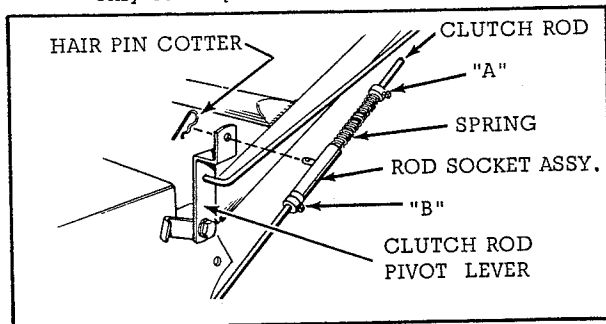

Fig. 10
- Attach the upper end of the clutch rod to the clutch rod pivot lever located on the left side of the tractor transmission. See figure 10. The projecting pin on the rod socket assembly is to be inserted into the hole in the clutch rod pivot lever and held in place by a hair pin cotter. Adjust the tension on the "V" belt by loosening the set screw and sliding collar "A" in or out while the clutch lever is in disengaged position. Retighten the set screw and engage the clutch. Belt tension will be correct when approximately 1/4" clearance is visible between collar "B" and the end of the rod socket assembly when the clutch is engaged. Avoid excessive belt tension as it will only cause premature belt failure.